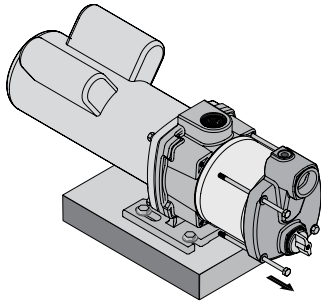

Figure 2
5. Remove four cap screws (Ref. No. 18) from the pump (see Figure 2).